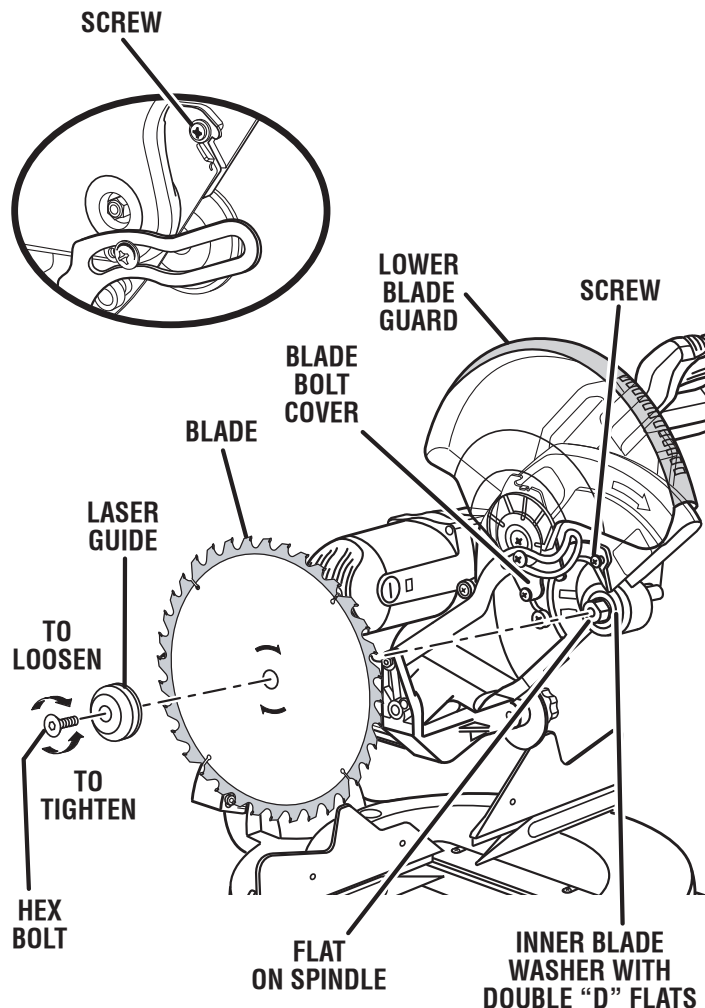

Fig. 13
See Figure 13.
- Fit saw blade inside lower blade guard and onto spindle. The blade teeth point downward at the front of saw as shown in figure 13.